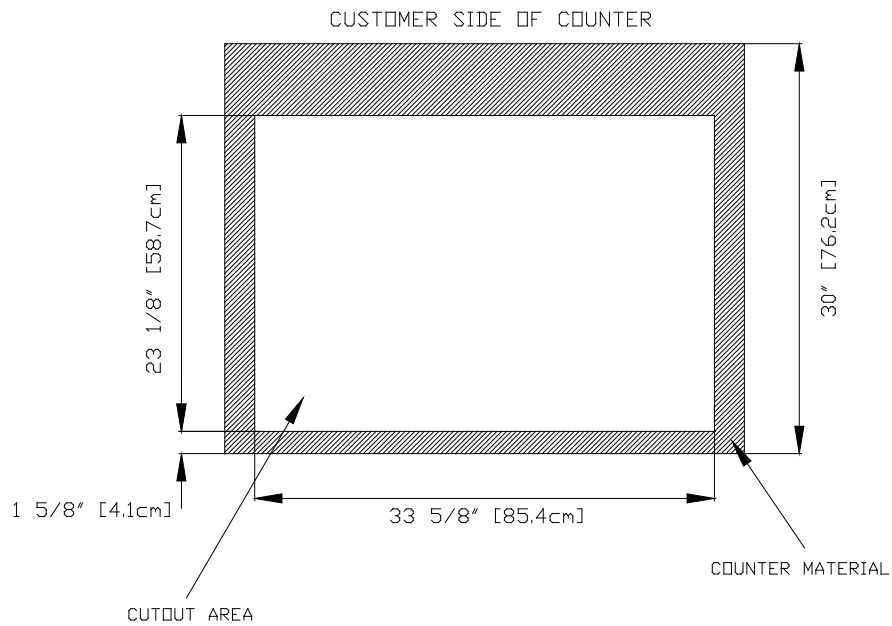
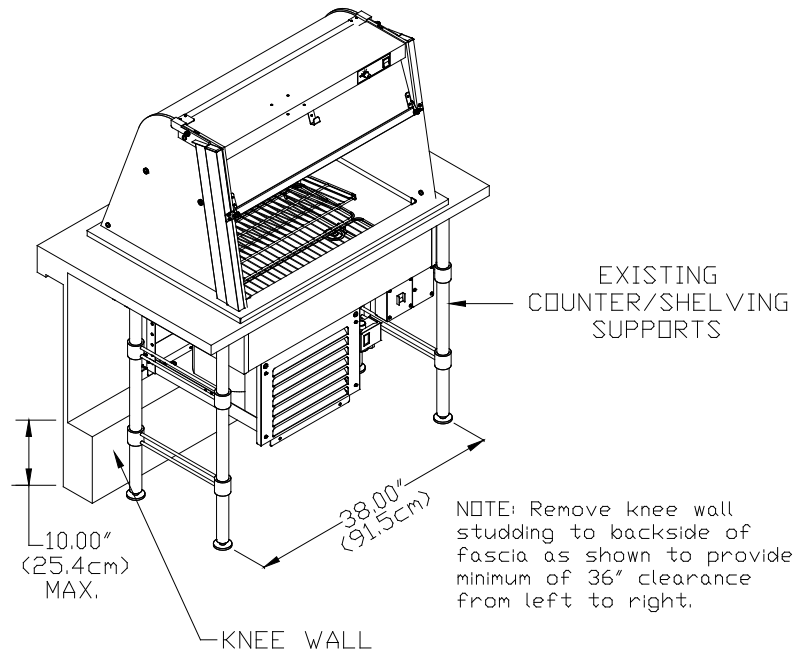

Figure 1.1, Standard Counter Cutout
Figure 1.3, Standard Merchandiser Installation
- ❑ For **normal installation**, cut opening as illustrated in figure 1.1, then modify knee wall as shown in figure 1.3.
- ❑ Place support braces under the counter top on each side of the opening (see figure 1.3), approximately 2.00" from the edge of the opening (36" centers).
- ❑ Remove two (2) 2x4 pieces of wood from crating material. Place boards on counter top close to each side of the hole, positioned so that when the merchandiser is placed into the hole, the edges of the merchandiser may rest on the boards.